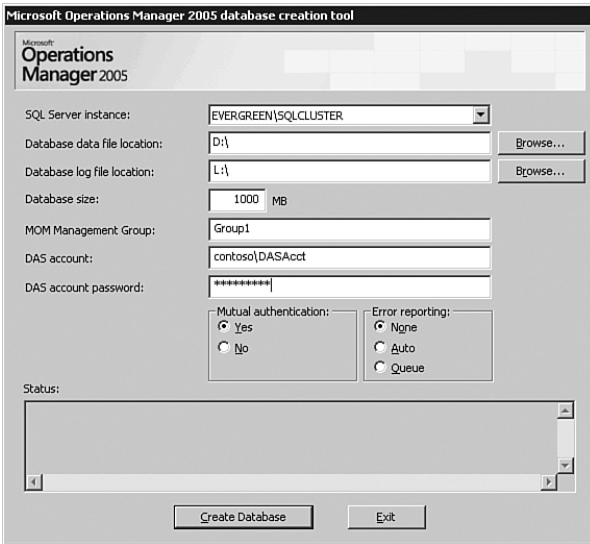

FIGURE 10.6 The MOMCreatedb.exe configuration screen.
1. Run MOMCreatedb on the Active cluster node. Figure 10.6 shows the configuration screen for the utility:
- ▶ The SQL Server Instance points to the virtual SQL node, which in this example is Evergreen, and the instance of SQL on that node (SQLCluster in Figure 10.6).